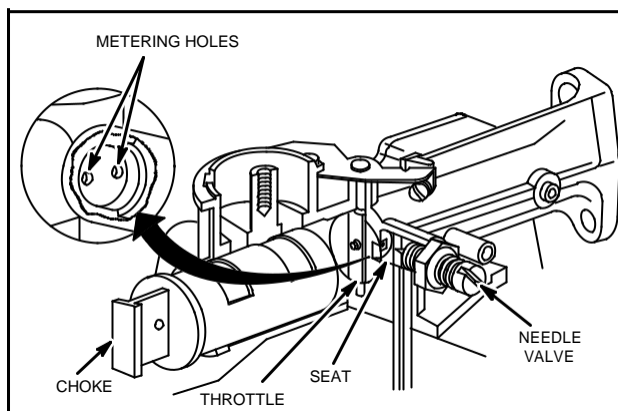

Fig. 180 - METERING HOLES
4. If carburetor is gummy or dirty, remove seat to allow better access to metering holes, Fig. 180.
**NOTE:** Do not change metering hole sizes, Fig. 180.